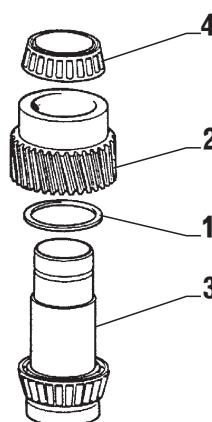

FIG. 3-2
ONLY ZF 63 IV: with transmission ratio of 1.3 to 2.0 the ring (item 1 Fig. 3-2) must be mounted
- With a transmission ratio of 1.3 to 2.0, a washer (item 1, Fig. 3-2) should be inserted.
- Press gear (item 2, Fig. 3-2) on shaft (item 3, Fig. 3-2), by means of a hydraulic press.
After having pressed the gear on, mount second inner race of bearing (item 4, Fig. 3-2) as described under 3.2.